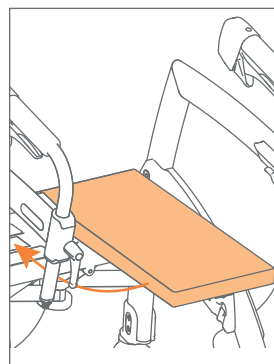

Figure 9: Pull away the cushion and attach it on the seat.
- c. Pull away the seat cushion and place it straight on the seat (**Figure 9**).